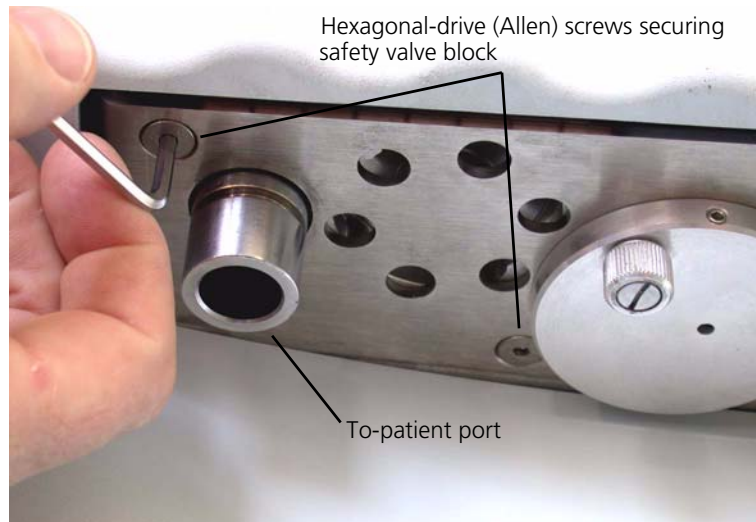

Figure 11-32. Position of the screws securing the safety valve block
4. Remove the two hexagonal-drive (Allen) screws holding the safety valve block in place. These are positioned near the to-patient port. (Figure 11-32.)